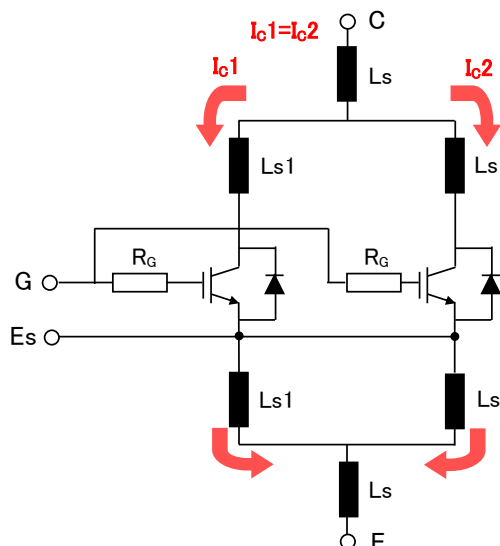

Figure 7-12. Current imbalance caused by an asymmetric main circuit inductance
- Circuit connections should be low inductance and laid out symmetrically for balanced inductance. Difference in the circuit inductance between each device may result in current imbalance. Asymmetrically high power loss may occur on one particular device and cause thermal destruction. (Figure 7-12)